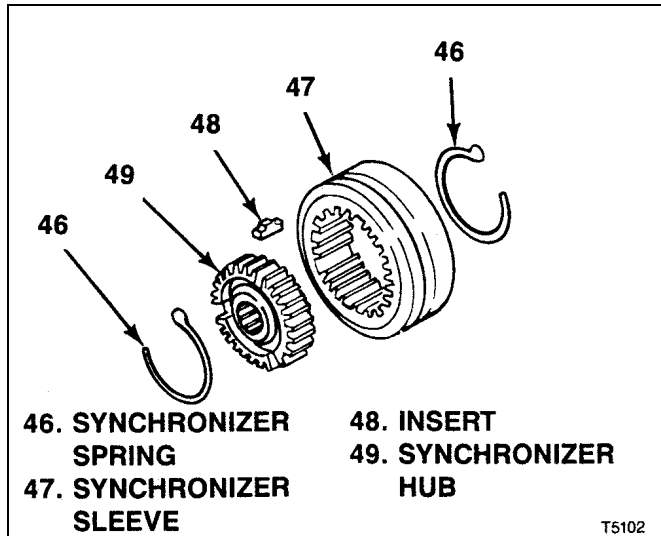
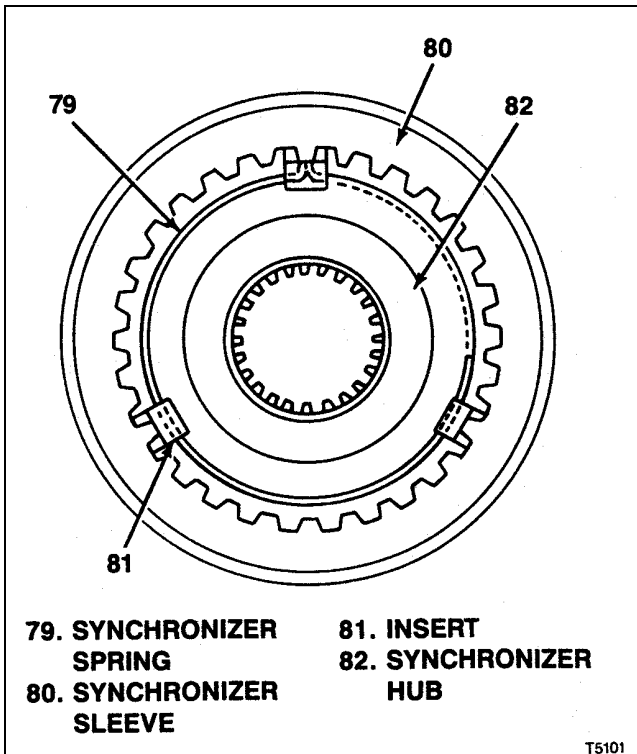
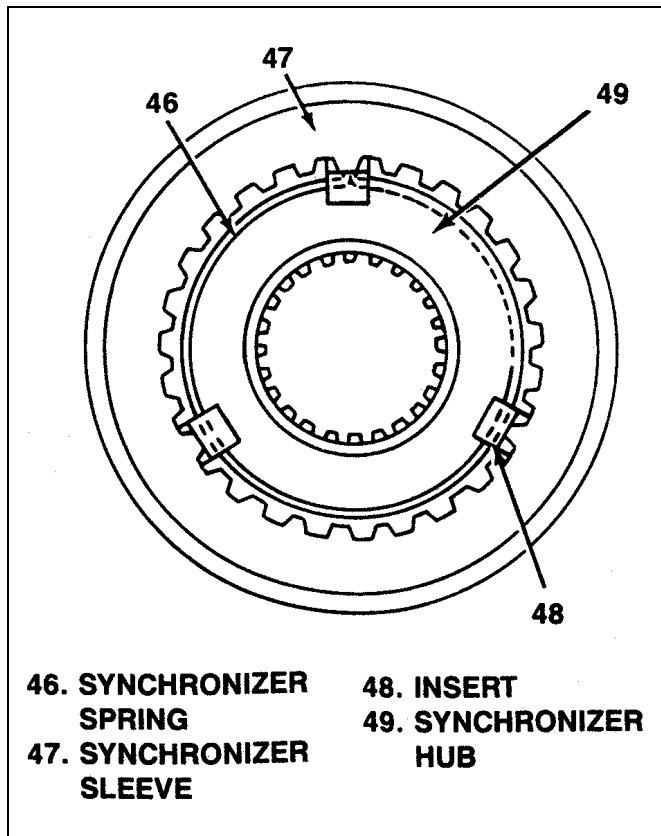

Figure 6-4. T5 WC 5th Synchronizer Assembled
Figure 6-2. T5 WC 3rd-4th Synchronizer Assembled
Figure 6-3. T5 WC 5th Synchronizer Assembly
sure to assemble sleeve (80) and hub (82) aligning marks made at disassembly (see figure 6-2) so that clutch teeth and part faces are assembled exactly as they were originally. Assemble as follows:
- Start sleeve (80) onto hub (82) to a position that will just permit installation of inserts (81). Install inserts (81) then engage clutch teeth fully.
- Hook one end of one spring (79) under one of the inserts (81) and wrap around inside, under all three inserts. Hook other end of spring under insert (see figure 6-2).
- Invert assembly. Hook remaining spring (79) under opposite end and side of same insert (81) where step b was started but wrap around inside in opposite direction from step b, under all three plates. Hook other end of spring under insert (81) (see figure 6-2).
- Position sleeve (80) and inserts (81) so that all inserts snap into neutral position.
6-7. ASSEMBLY OF T5 WC 5TH SYNCHRONIZER ASSEMBLY (see figure 6-3). Be sure to assemble sleeve (47) and hub (49) aligning marks made at disassembly (see figure 6-4) so that clutch teeth and part faces are assembled exactly as they were originally. Assemble as follows:
- Start sleeve (47) onto hub (49) to a position that will just permit installation of inserts (48). Install insert (48) then engage clutch teeth fully.
- Hook one end of one spring (46) under one of the inserts (48) and wrap around inside, under all three inserts. Hook other end of spring under insert (see figure 6-4).
- Invert assembly. Hook remaining spring (46) under opposite end and side of same insert (48) where step b was started but wrap around inside in opposite direction from step b, under all three plates. Hook other end of spring under insert (48) (see figure 6-4)
- Position sleeve (47) and inserts (48) so that all inserts snap into neutral position.